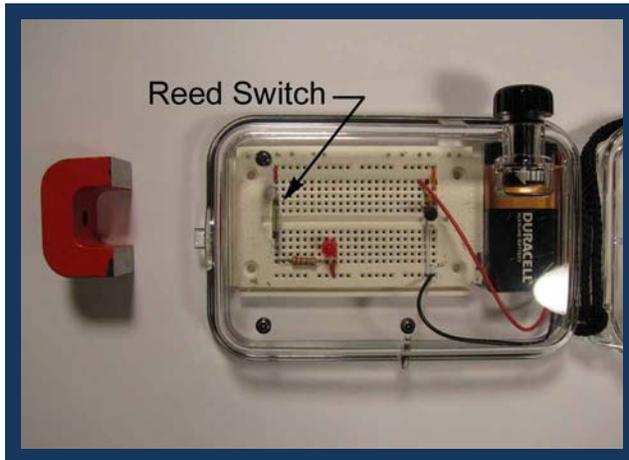

Figure 6: The magnet is too far away to close the reed switch.
- Magnets on the outside of a waterproof housing can activate a magnetic switch inside the housing without the need to drill another hole through the housing. See Figures 6 and 7 on the next page.